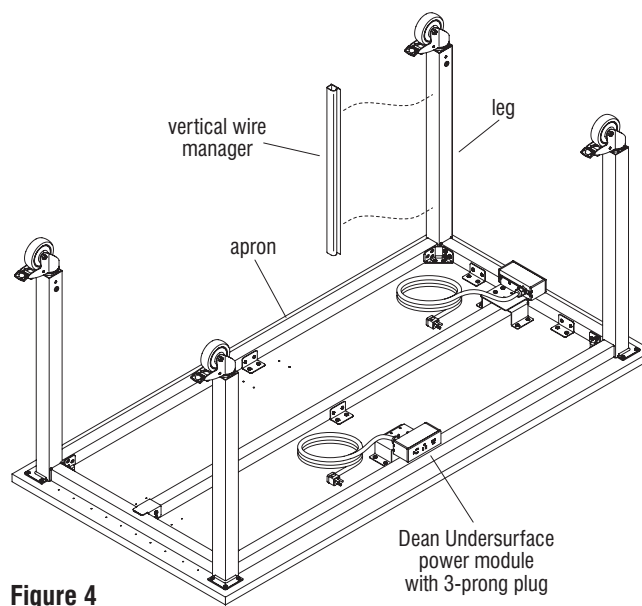

Figure 4
1. Position the vertical wire manager in the desired location against the leg which is closest to a power source. Align the vertical wire manager straight along the leg and  $1\frac{1}{2}$ " from the bottom of the apron, then mark the location of the wire manager and move the unit away (Figure 4 & Detail F).
2. Remove the adhesive backing from the vertical wire manager to expose the adhesive surface. Position the wire manager back to the marked location, centered on the leg (Figure 4 & Detail F).